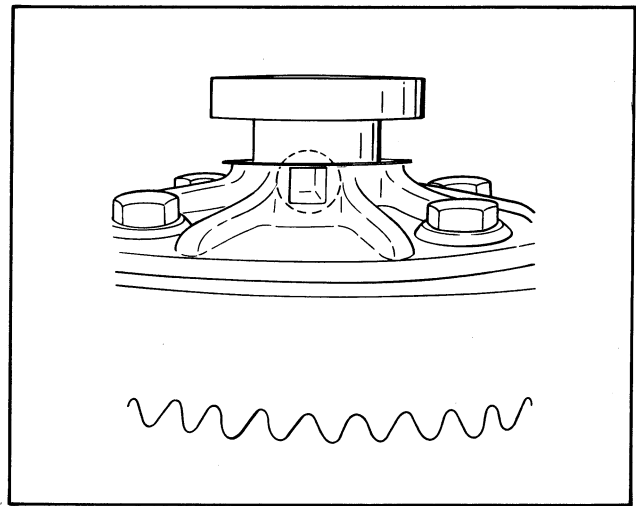
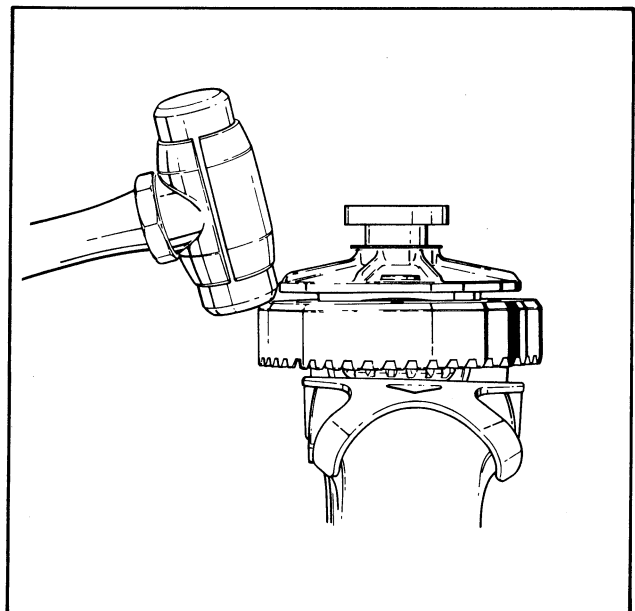

Figure 36 - Recess For Puller
Figure 37 - Removing Ring Gear
- g. Remove bearings (22) if they are worn or damaged. (Do not remove differential bearings unless bearing failure is evident.) If removal is necessary, care must be taken to ensure that bearing puller jaws are located in cast recesses of differential case so the puller jaws will apply their force to the inner bearing race and not the bearing cage, Figure 36.
- h. Remove shims (17). Band or wire shims together to avoid losing them.
- i. Remove bolts (33) and nut (34) from ring gear (13).
- j. Use a soft hammer to tap ring gear from ring gear carrier, Figure 37. Be careful not to damage ring gear teeth.